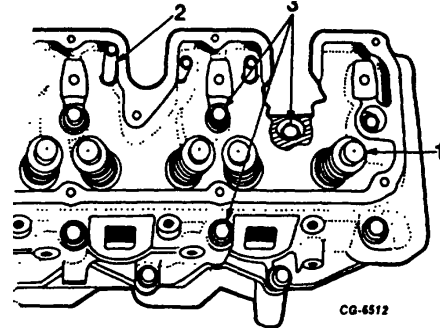

Figure 29. Removing Valve Caps, Push Rods and Head Mounting Bolts
6. Remove valve tips from ends of valves. Withdraw push rods from engine (Figure 29).
7. Remove fourteen cylinder head to crankcase mounting bolts (Figure 29).